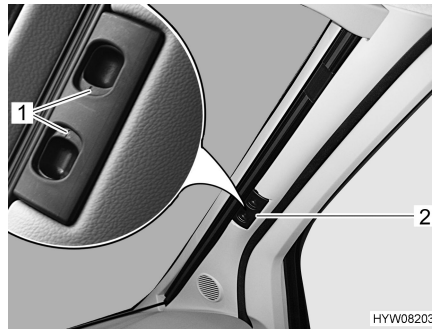

Fig. 8 Roman shade for the windscreen
- Use the handle (Fig. 8,2) to pull the two halves of the Roman shade for the windscreen outwards as far as they will go.
- Allow the release handles (Fig. 8,1) to engage.